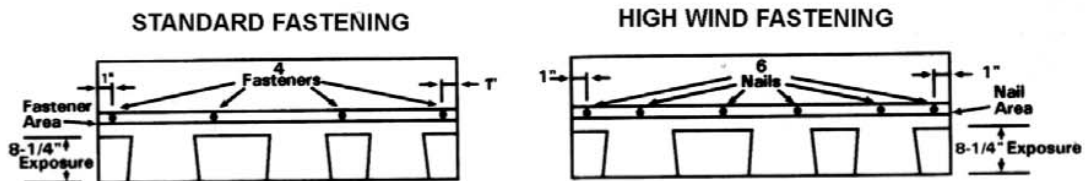

FIGURE 1—TYPICAL INSTALLATION DETAILS
Installation of Prestique Grande and Domain Winslow asphalt shingles shall comply with this report, the applicable code and the manufacturer's published installation instructions. The manufacturer's published installation instructions shall be available at the jobsite at all times during installation. The roof deck shall be code-complying, minimum $\frac{3}{8}$ -inch-thick (9.5 mm), exterior plywood; $\frac{7}{16}$ -inch-thick (11.1 mm) orientated strand board (OSB); or solid sheathing using minimum nominal 1-by 6 lumber. The shingles shall be installed in accordance with IBC Table 1507.2, IRC Section R905.2, IOTFDC Table 903.1, SBC Section 1507.3 or UBC Table 15-B-1. See Figures 1 through 3 of this report for typical installation details.
4.2.1 Standard Fastening: Each Prestique Grande asphalt shingle shall be fastened to the roof deck with a minimum of four fasteners. Each Domain Winslow asphalt shingle shall be fastened to the roof deck with a minimum of five fasteners. One fastener is located 1 inch (25.4 mm) in from each edge, and the balance shall be evenly spaced across the width of the shingle. Fasteners shall be placed on the fastener line. See Figure 1 of this report for typical fastening details.
4.2.2 High-wind Applications: A minimum of six fasteners, for the Prestique Grande roofing system, or a minimum of eight nails, for the Domain Winslow roofing system, shall be placed as shown in Figure 1 of this report for the following conditions: